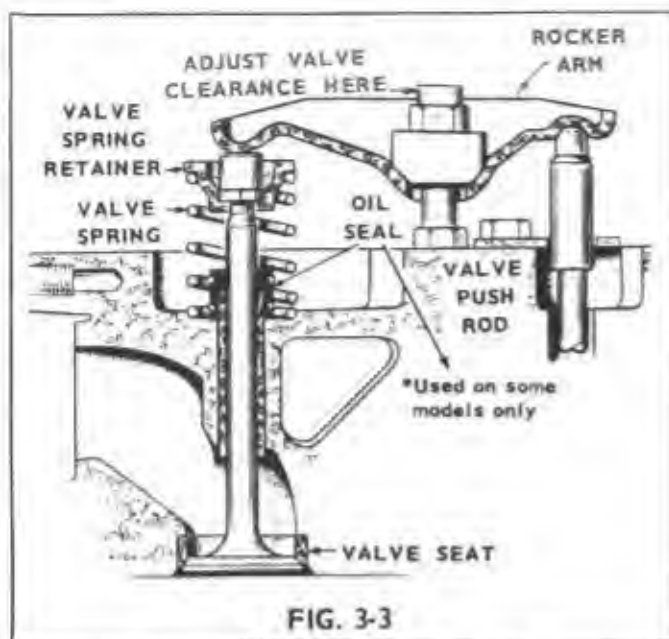

FIG. 3-3
3. Check cylinder head-bolt torque prior to valve clearance adjustment. Torque should be 44 to 46 foot-pounds. To change the setting of valve clearance, adjust the locknut which secures the rocker arm to the cylinder head (see Fig. 3-3). Loosen the locknut to increase clearance and tighten it to reduce clearance.